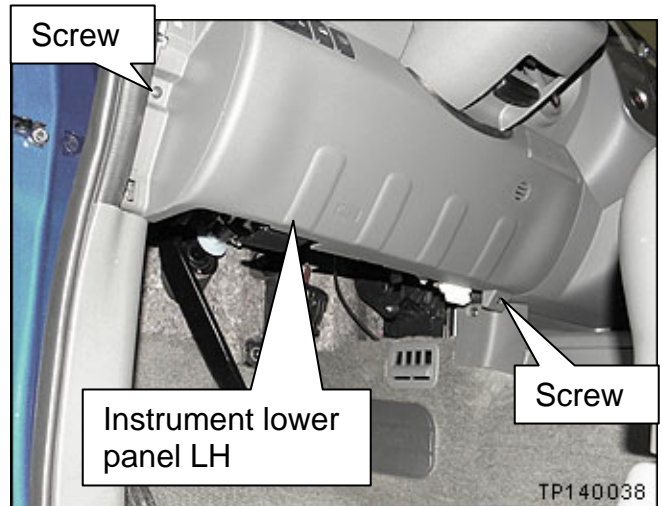

Figure 3
5. Remove the 2 screws shown in Figure 3.